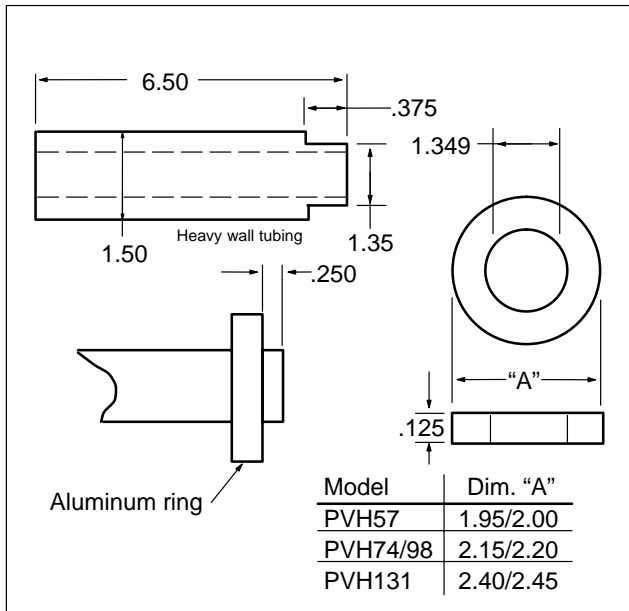

Figure 22: Shaft Seal Driver
- Shaft seal assembly tool (see Figure 22)